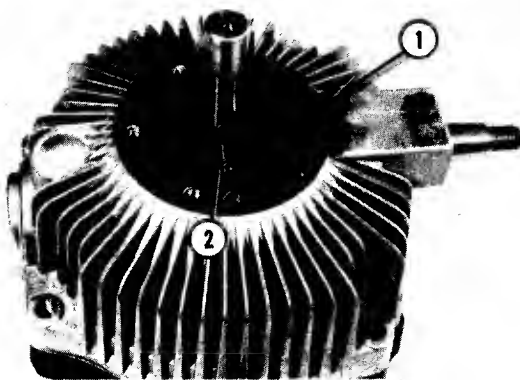

FIG. 4.42-CARRIER DRIVE PIN
5. When roll carrier, No. 1, Fig. 4.42, is lifted off note position of carrier drive pin, No. 2. Be extra careful in removing this pin. It is round and loose fitting and may be easily dropped.